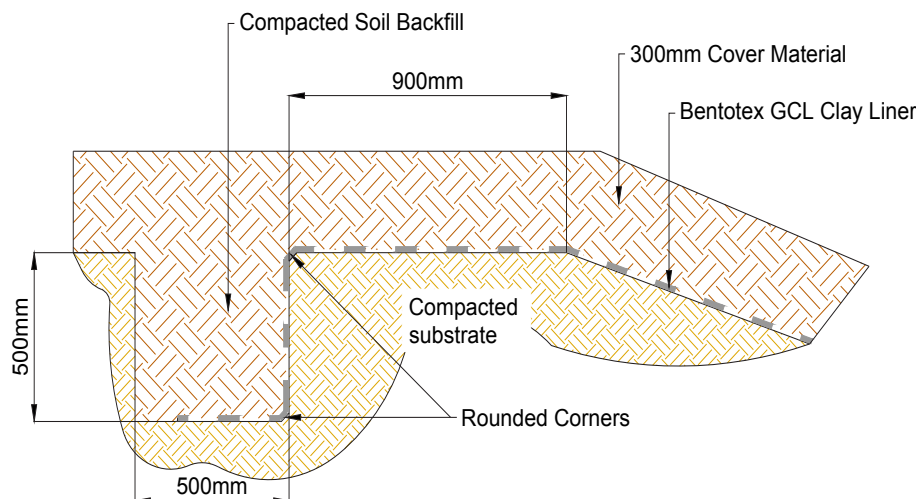

Figure 2. Typical Anchor Trench Location and Dimensions
- 6.3 If a trench is used for anchoring the end of the GCL, soil backfill should be placed in the trench to provide resistance against pullout. The size and shape of the trench, as well as the appropriate backfill procedures, should be in accordance with the project drawings and specifications. Typical dimensions are shown in Figure 2.